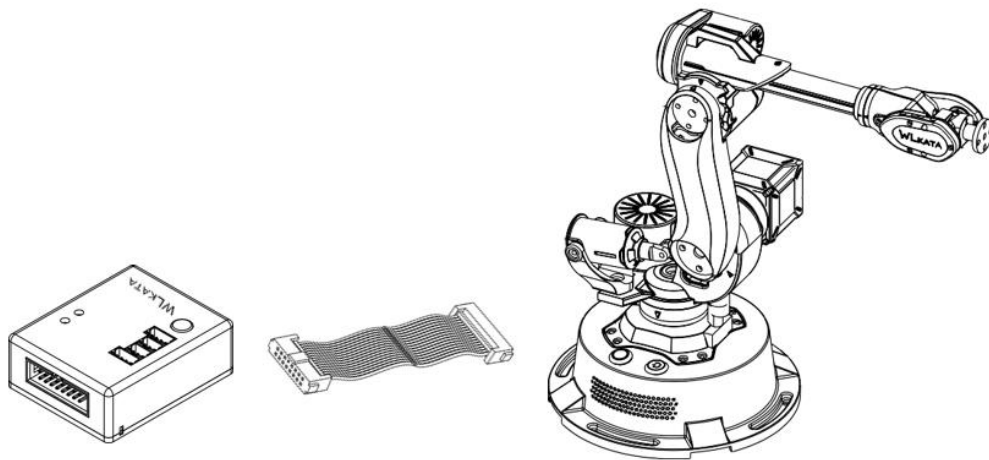

Figure3.46 The connection between Bluetooth extension module and Mirobot manipulator
(1) Connect the Bluetooth extension module and the communication extension interface on the back of the Mirobot manipulator base, as is shown in Figure 3.46.